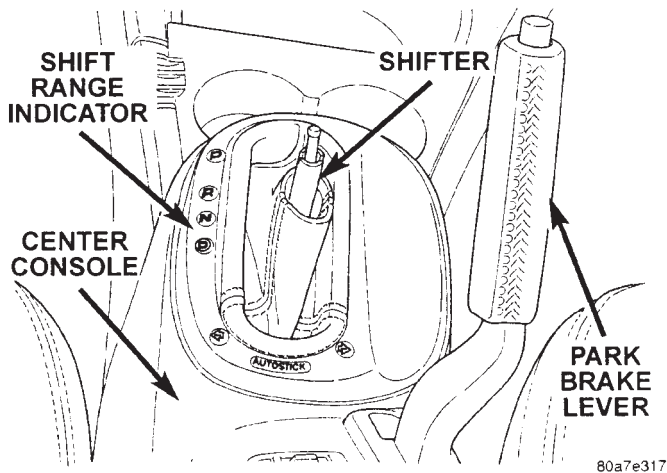

Fig. 131 Shift Range Indicator
(2) Remove the shift range indicator (Fig. 131) from the center console. The shift range indicator is attached to the center console using retaining clips. It is removed by carefully prying it off the center console. The shift range indicator covers the 2 attaching screws for the center console.
(24) Install the transmission range indicator (Fig. 131) in the center console.
(25) Install the shift knob on the shifter. Install and securely tighten the shift knob retaining screw.
(26) Fold the carpeting back into position on the rear floor of the vehicle.
(27) Install the 2 clips attaching the carpeting to the cross car beam.
(28) Install the 2 wiring harness routing clips on the cross car beam.
(29) Install the quarter trim panels. Refer to Group 23 Body in this service manual for the required installation procedure.
(30) Install both door sill plate scuff moldings, by snapping them onto the door sills.
(31) Install lower rear seat cushion. Be sure lower seat cushion is fully installed in retainers on floor pan of vehicle.